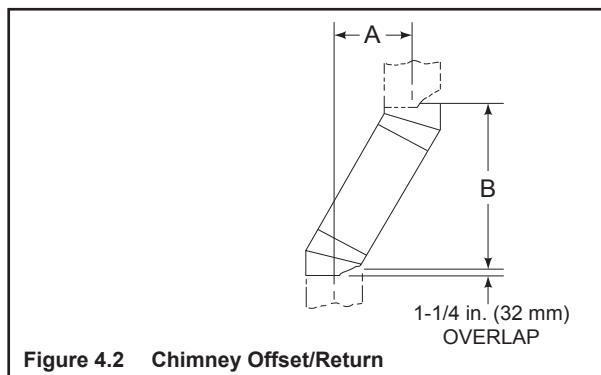

Figure 4.2 Chimney Offset/Return
- Measure the shift needed to avoid the overhead obstruction. Refer to dimension A in Figure 4.2.
Your "A" dimension from Figure 4.2 is 14-1/2 in. (368 mm). Using Table 4.3 the dimension closest to, but not less than 14 1/2 in. (368 mm) is 15-3/4 in. (400 mm) using a 30° offset/return.